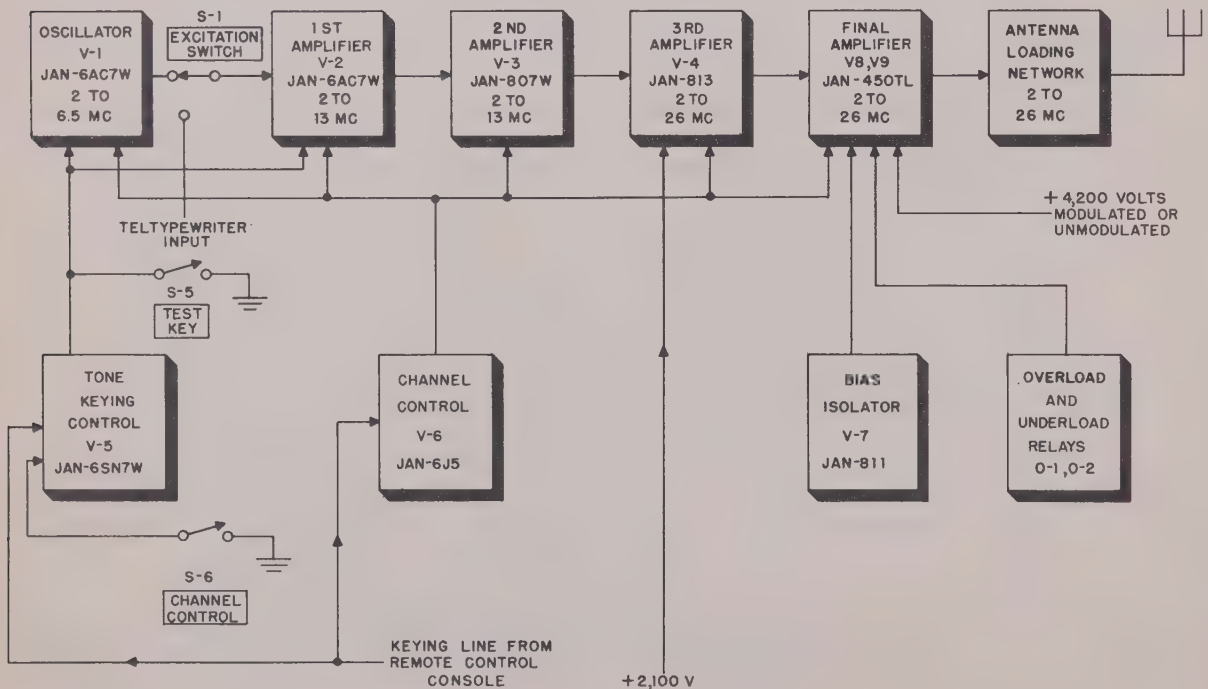

Figure 38. Radio Transmitter Model 96D, block diagram
51. Block Diagram of Radio Transmitter Model 96D (fig. 38)
signal path is shown in figure 38, the block diagram of the transmitter. A complete schematic diagram of the transmitter is shown in figure 91.